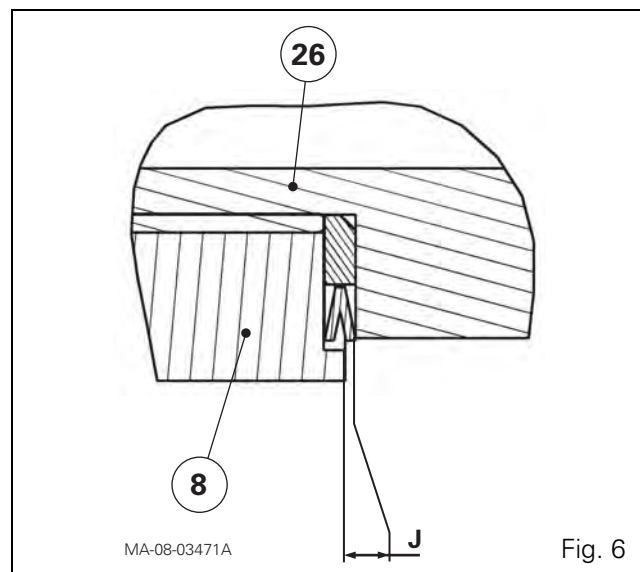

Fig. 6
49. Check the condition of the washers (10) (12) and replace them if they are damaged.
50. Fit the new seals (11) (13).
54. Remove the screws (8). Smear screws with Loctite 241 or equivalent and tighten them to a torque of 560 Nm.
55. Ensure operating clearance does not exceed 0.25 mm (Fig. 6). Adjust the clearance if it is not correct.